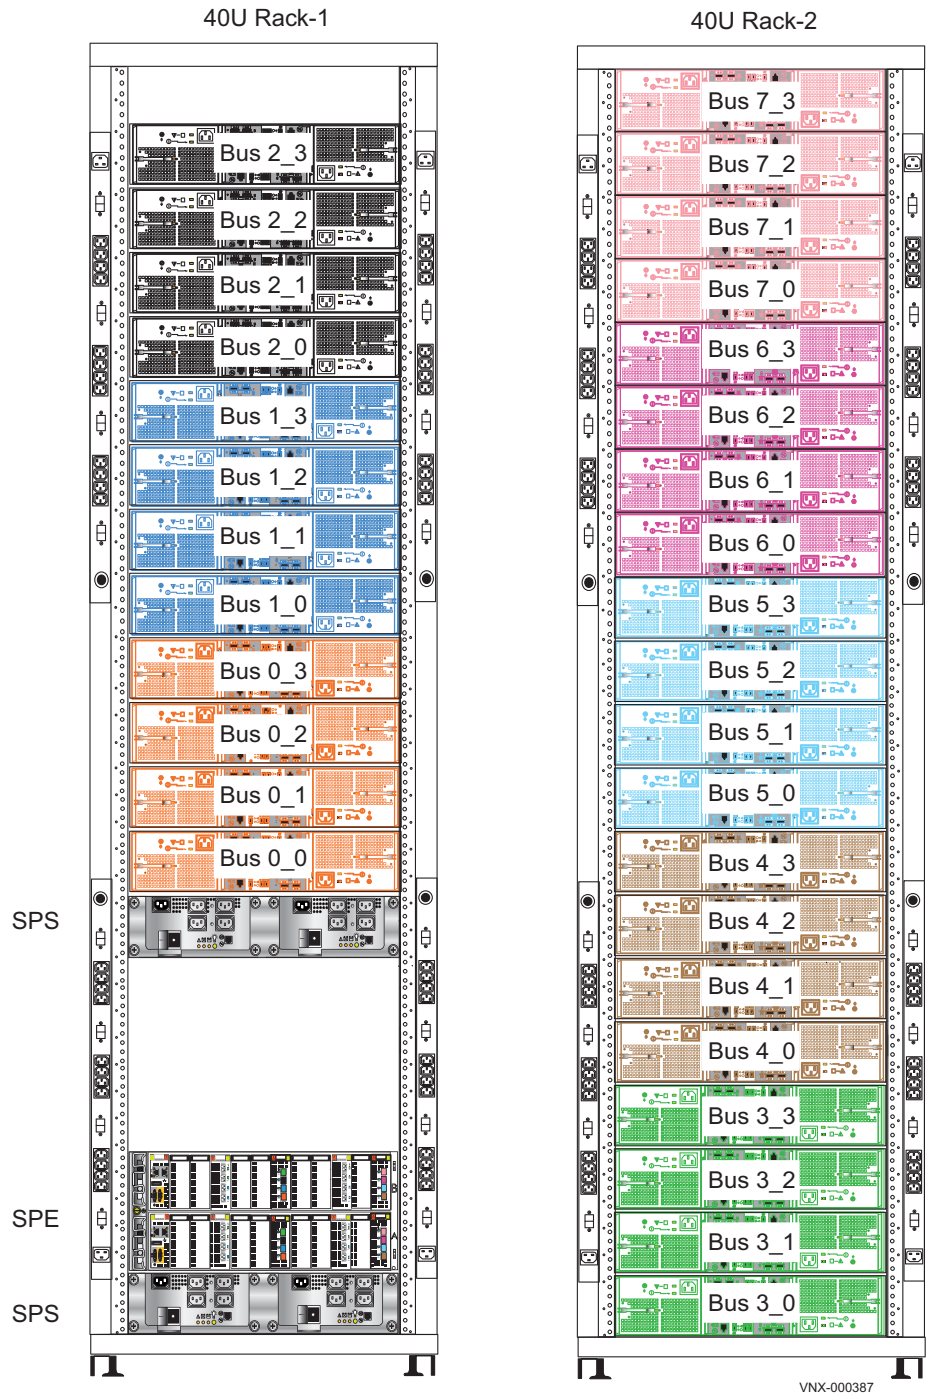

Figure 124 Example of thirty-two 2U, 25 DAEs in a Block stacked system
- Eight-bus factory-shipped Block system using thirty-two 2U, 25 disk DAEs in a stacked configuration (Figure 124 on page 153)
Figure 124 shows an example of two 40U racks having thirty-two 2U, 25 DAEs configured in a Block stacked configuration.